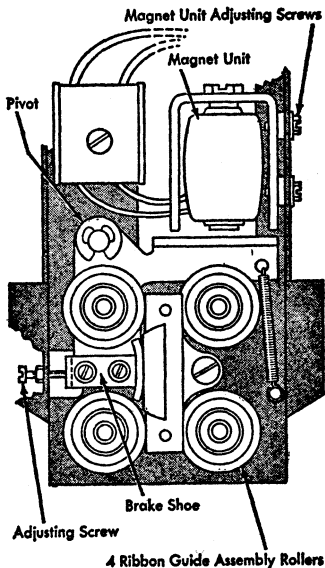

Figure 5. Auxiliary Carriage Magnet Unit Assembly
7. AUXILIARY CARRIAGE MAGNET UNIT ASSEMBLY. (Figure 5).